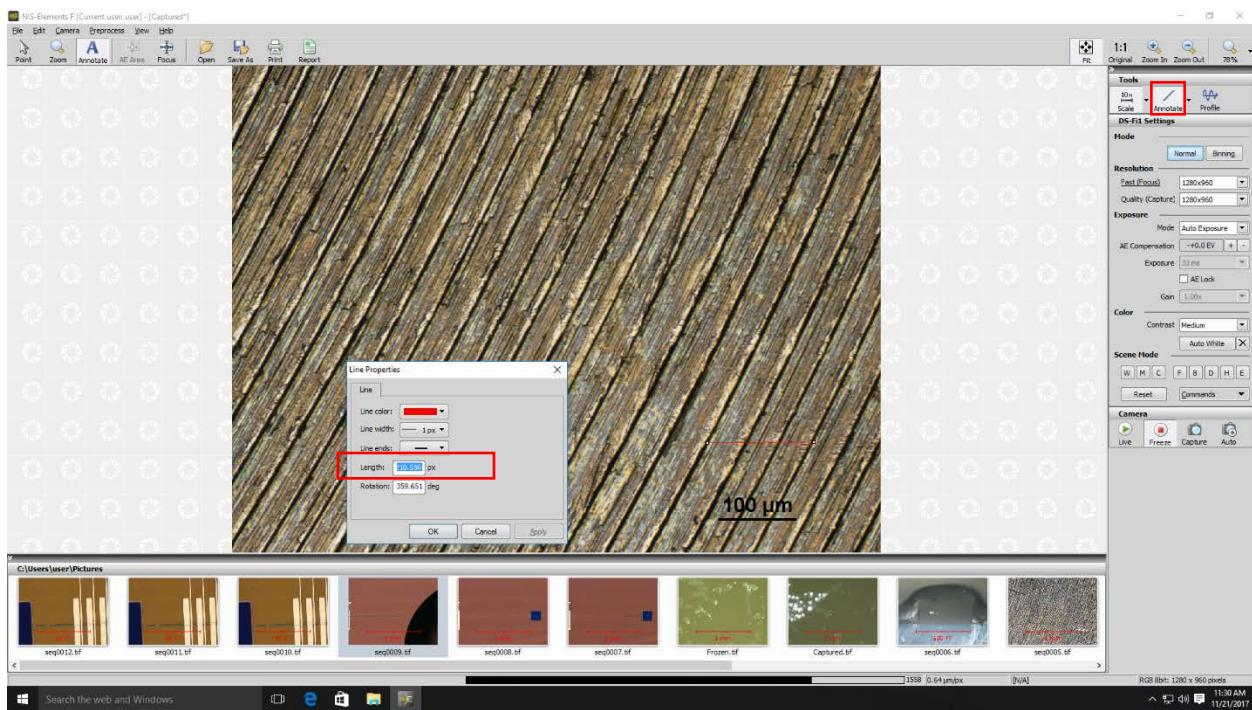

Figure 10: Measure the size of a feature.
- 10) To measure the size of a feature, select the ‘Annotation’ near the ‘Scale’ (Figure 10). Draw a line through the feature. Double click on the line. The length of the line can be read in the unit of pixel (Figure 10). Similarly, draw a line through the scale bar, and read the length of scale bar in the unit of pixel. The length of the feature can be calculated.